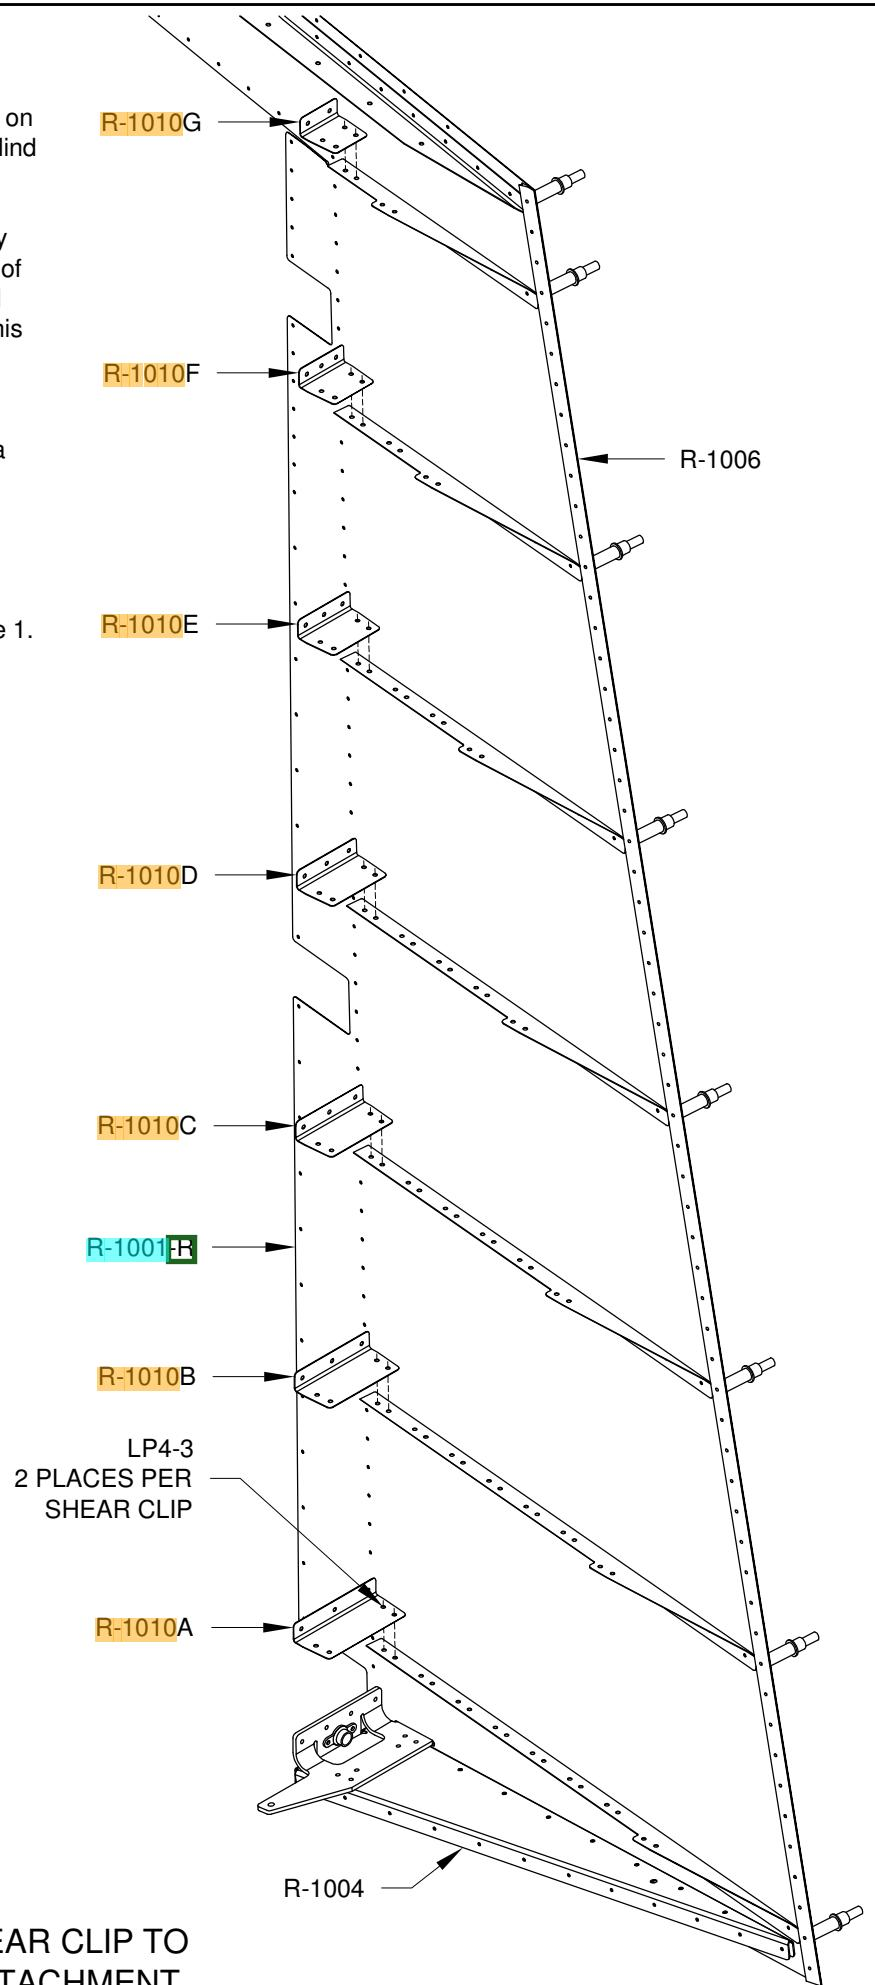

FIGURE 1: SHEAR CLIP TO STIFFENER ATTACHMENT
Cleco the trailing edge to the R-1001R skin as shown in Figure 1.
Step 3: Position the R-1001L Skin on the R-1001R Skin as shown in Figure 2. Make sure the R-1015A Stiffener is positioned correctly relative to the R-1015A R Stiffener and the R-1010A Shear Clip (see Page 7-5, Figure 1), then cleco the bottom of the skin to the R-1004 Bottom Rib. Capture the left skin with the bottom cleco in the trailing edge.